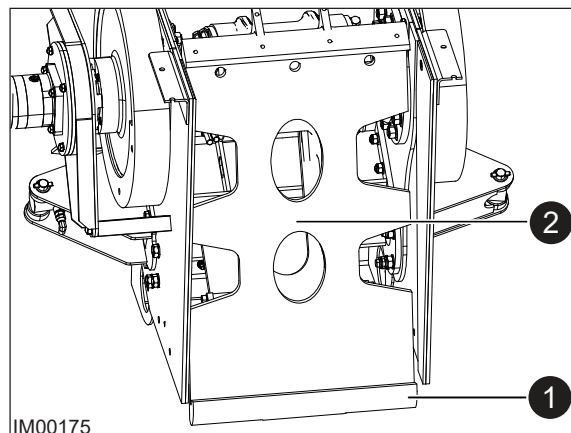

Fig: 11.34 - Jaw Back Wall
10. Ensure there is no debris located on the Holder of the jawstock (Item 1) or Back Wall Fabrication (Item 2). Ref: Fig: 11.34. Repair any damage to the components if required.